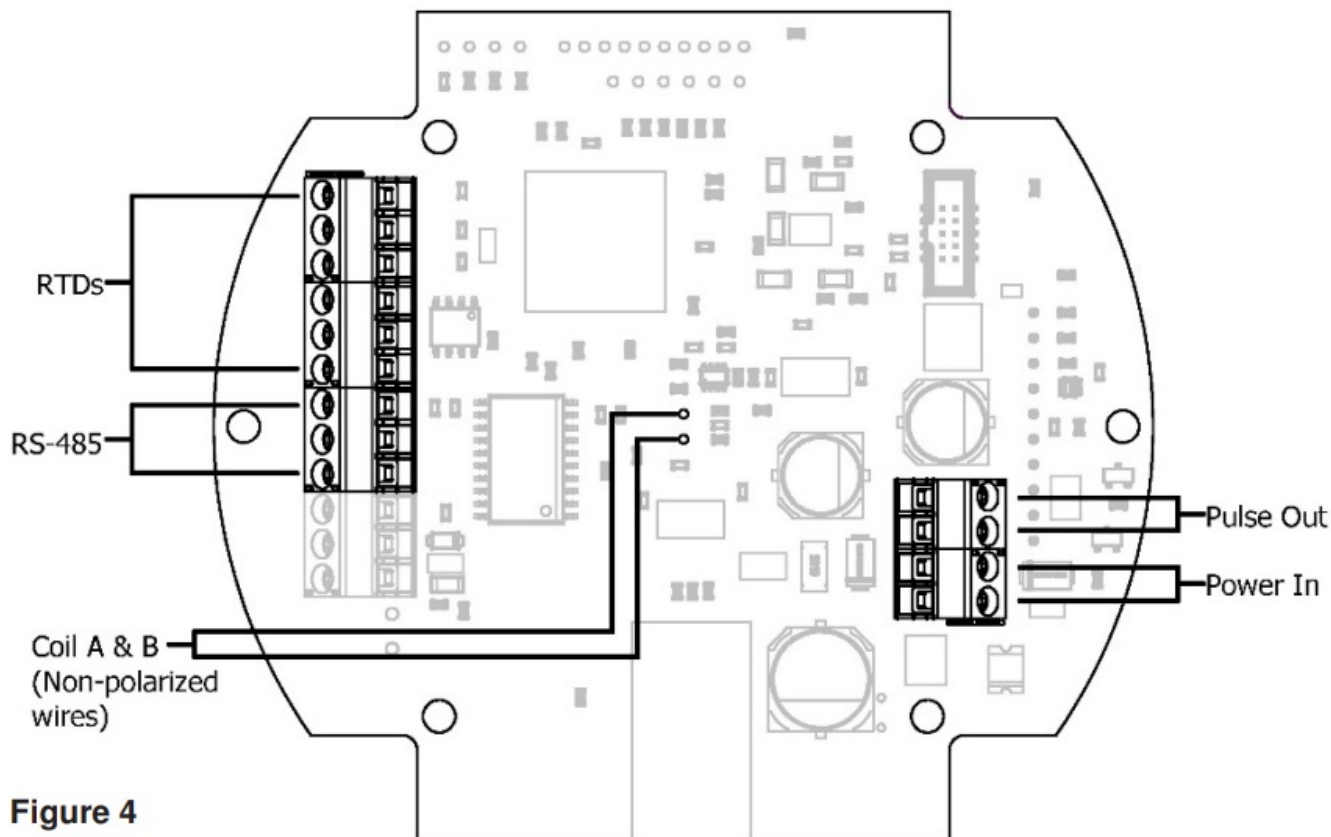

Figure 4
3. Remove the (6) #8-16 x 3/4 in. screws attaching the module cover plate to the base and separate. Do not damage the seal between the two components (see Figure 2). The (2) wires connecting the QSI PC board to the screw terminal of the pick-up circuit board are long enough to allow the separation of parts. The wires may be disconnected from the screw terminal if necessary. The wires are non-polarized and may be connected to either screw of the screw terminal (see Figure 4).
5. Install the gasket received with the module on the bottom of the base. Mount the base to the TM meter, seating the pick-up coil in the meter recess. Secure base with (4) screws provided with the module. Tighten screws.
6. Make sure the seal is in place on top of the base prior to reattaching (if previously disconnected) the (2) wires to the screw terminal of the pick-up circuit board.
9. Connect cable wires to the QSI PC board screw connectors (see Figure 4, 6, or 8 depending on your module version).
10. Mount the cover plate on the base making sure the seal is seated properly between them. Replace the (6) previously removed screws to secure the cover plate to the base. Tighten screws.